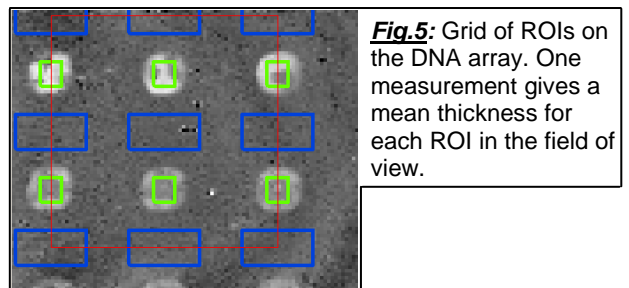

Fig.5: Grid of ROIs on the DNA array. One measurement gives a mean thickness for each ROI in the field of view.
8. Measurement of thickness in all ROIs on spots in the field of view simultaneously (fig.5)